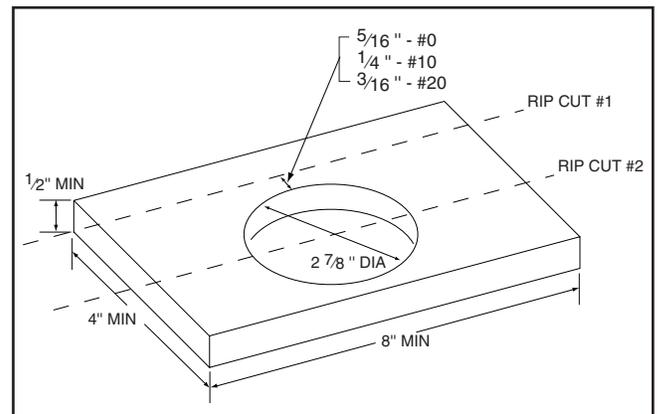

Figure 2. Laying out guide runner.
1. Start with a solid piece of wood measuring approximately 8" long by 4" wide, approximately 1" thick. This piece will become the guide runner which will locate against the edge of the workpiece. With a compass or circle template, draw a circle with a $2\frac{7}{8}$ " diameter at the edge of the board, centered along its length (See Figure 2). Use a hole saw, band saw or jig saw to cut out the circle. Don't
2. Determine which biscuit size you plan to use with the fixture. Measure the appropriate distance as indicated in Figure 2 from the edge of the circle, and draw a line. Rip the length of the piece along that line.